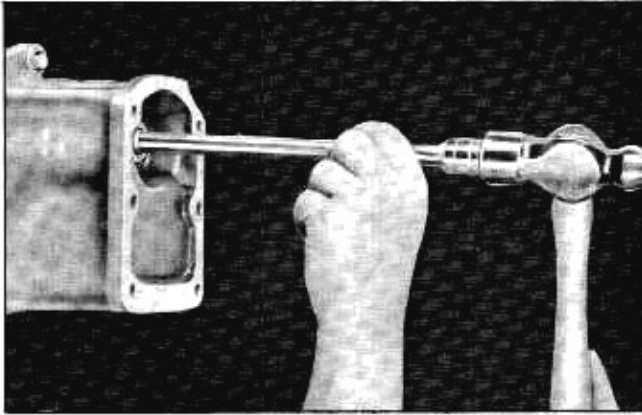

Fig. 7-19 Installing Rear Bearing
1. Install rear bearing with suitable socket (rides on outer race) and extension (Fig. 7-19).